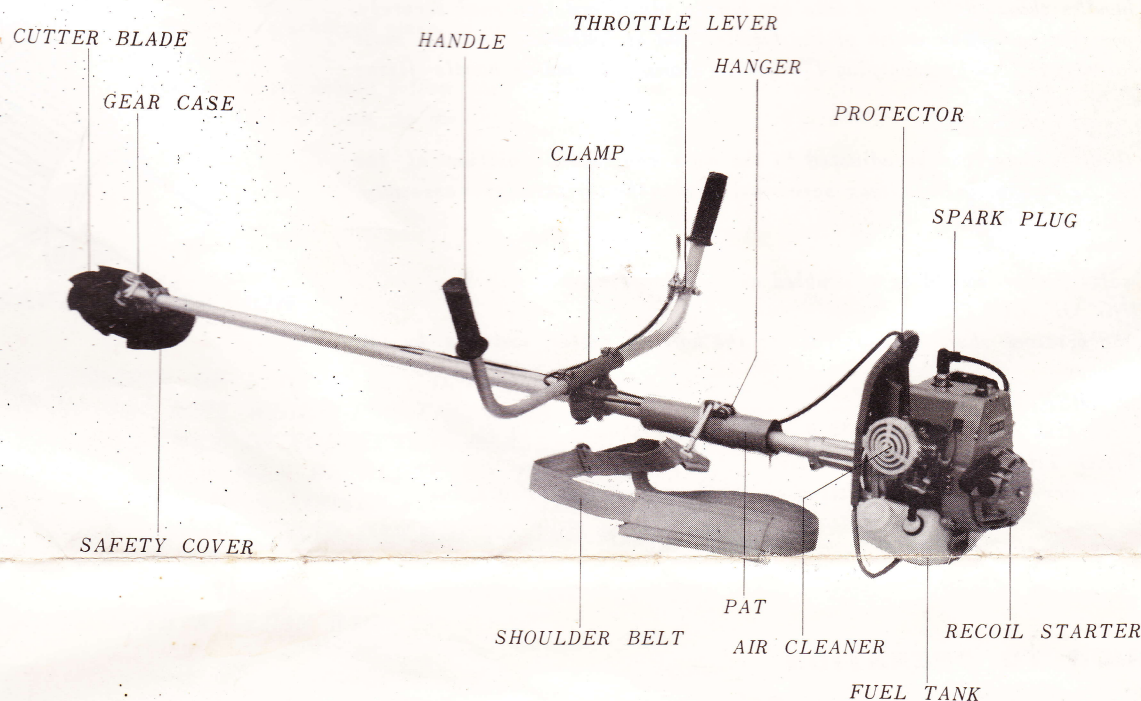

Fig. 1
The handles should be inserted into the handle clamp and tightened securely. The positioning and/or width of the handles can be adjusted to the most convenient position by loosening the handle clamp bolt and/or handle fixing bolts. (Fig. 1)
The throttle lever can be adjusted to the most convenient position of the handle, by loosening the clamp screw and turning the throttle lever assembly. (Fig. 1)
The shoulder belt should be fitting as the figure shows. (Fig. 1)
- d. Pull the recoil starter cord 3-4 times gently. (Fig. 1)